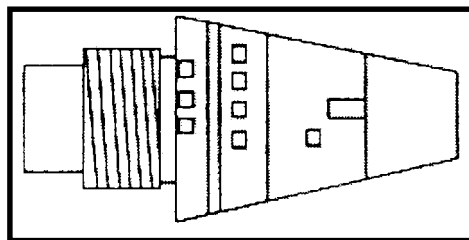

Figure 7-20. Setting the M776 (DM93) MTSQ fuze.
b. **M776 (DM93) MTSQ Fuze** (Figure 7-20).
(1) Rotate the head of the fuze to the left (counterclockwise) until the inverted triangle or index line is aligned with the correct line and number of seconds of the time scale.
(2) Use the fuze setter to rotate the head of the fuze.